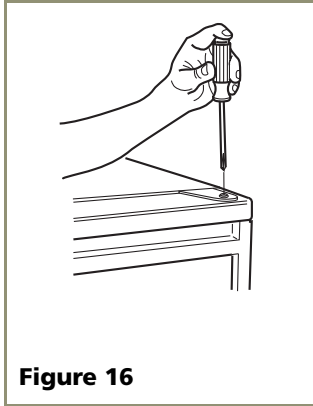

Figure 16
1. Remove top hinge screw pin (using a Phillips screwdriver, see **Figure 16**). Remove door by tilting forward and lifting off bottom hinge pin.